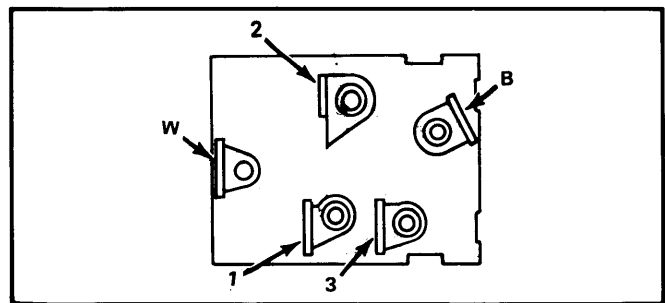

Fig. 2 Jeep Identification of Test Connections ("CJ" & Scrambler Models)
1) Place ignition switch in "ON" position and use a suitable test lamp to check for 12 volts at switch terminal B. See Fig. 2. If test lamp lights but motor does not operate, ensure ground is